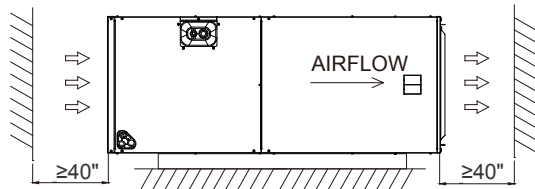
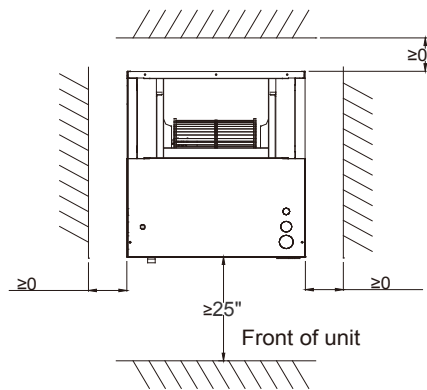

Fig.2-1 CLEARANCES IN THE HORIZONTAL POSITION
Fig.2-2 CLEARANCES IN THE VERTICAL POSITION
Install the indoor and outdoor unit, power supply wiring and connecting wires at least 3.5 ft. away from televisions or radios in order to prevent image interference or noise. See Fig.2-1 and Fig.2-2.
- Low voltage control connections are made to low voltage pigtails extending from top of air handler (upflow position - see Fig 2-2).